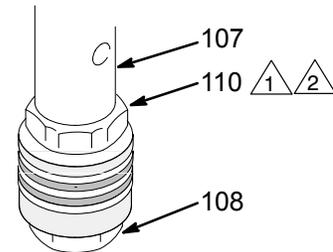

Fig. 21
- Hand tighten the valve into the piston rod just until the nut (110) contacts the rod. See Fig. 21.
- Place the flats of the rod (107) in a smooth jaw vise.
- CAREFULLY** tighten the nut (110) against the piston rod to 30 ft-lb (40 N.m). See Fig. 21.
- Do not allow nut (110) to move relative to piston (108) when tightening piston against rod.